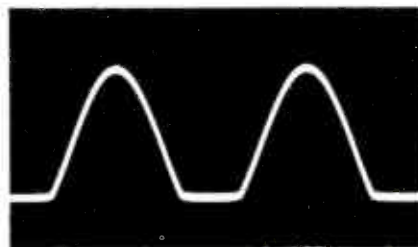

Figure 7
24. The type of clipping distortion shown in Figure 7 is likely to be caused by: